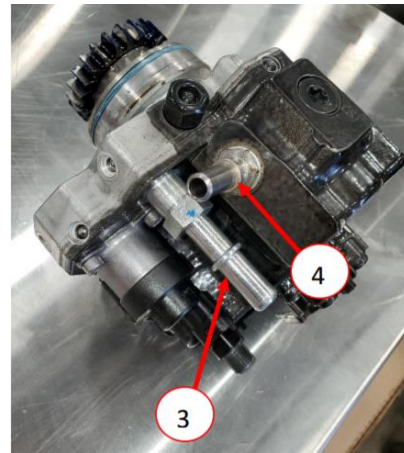

Figure 18 – HPFP Supply and Return Fittings
- h) Install the supply (3) and return (4) quick disconnect fittings onto the pump (Figure 18) as shown below and tighten to 24 N·m (18 ft. lbs.).